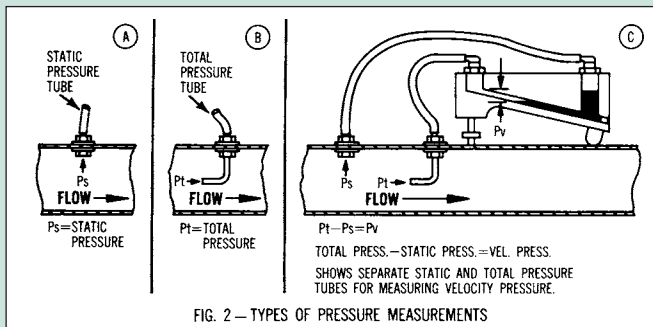

FIG. 2 — TYPES OF PRESSURE MEASUREMENTS
In Figure 2, note that separate static connections (A) and total pressure connections (B) can be connected simultaneously across a manometer (C). Since the static pressure is applied to both sides of the manometer, its effect is cancelled out and the manometer indicates only the velocity pressure.